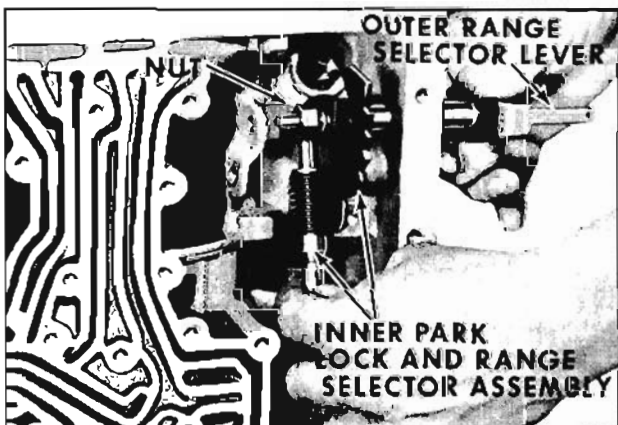

Fig. 6-413 Installing Actuator and Selector Assembly
4. Install inner park lock and range selector assembly to outer range selector lever. Install nut on range selector lever. (Fig. 6-413)